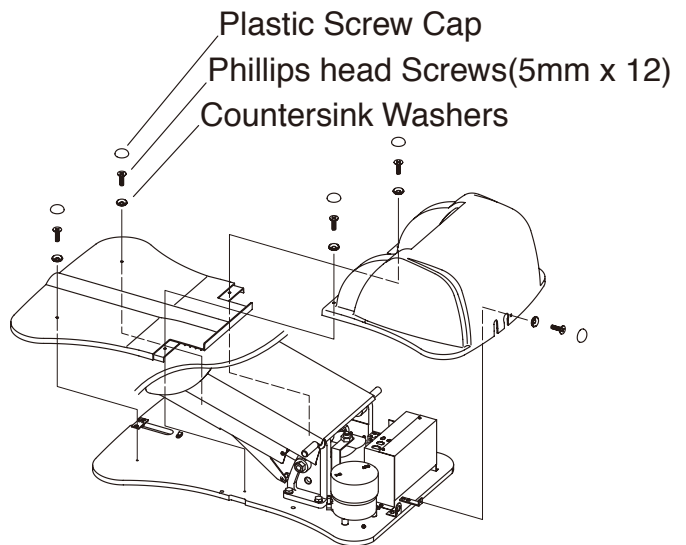

Figure 8
- 15) Using a phillips screwdriver, attach plastic base and pump covers to the base plate with 5 (5mm x 12) screws with countersink washers & plastic screw caps. (See Figure 8)